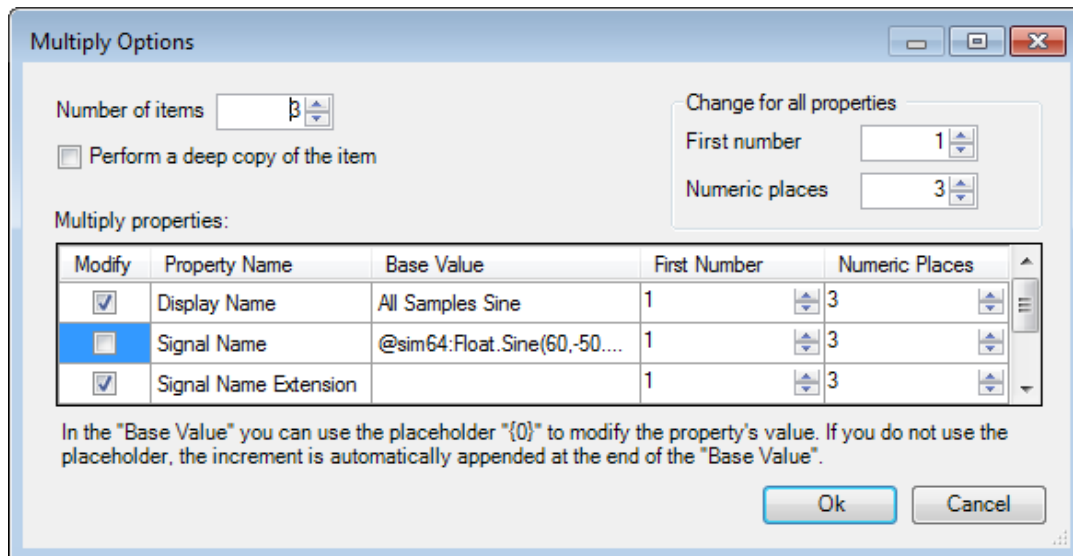

Figure L3.7 - Multiplying a Hyper Historian Tag
2. In the Multiply Options dialog that opens, as shown in Figure L3.7, set the **Number of Items** to **3**. Also, **remove the checkmark** from the **Modify** checkbox next to the **Signal Name** so that the signal name *does not* get incremented when we make copies. If you scroll up and down you'll notice all of the other properties that *will* be incremented. Click **OK**. Three more Hyper Historian tags are added to the navigation tree.